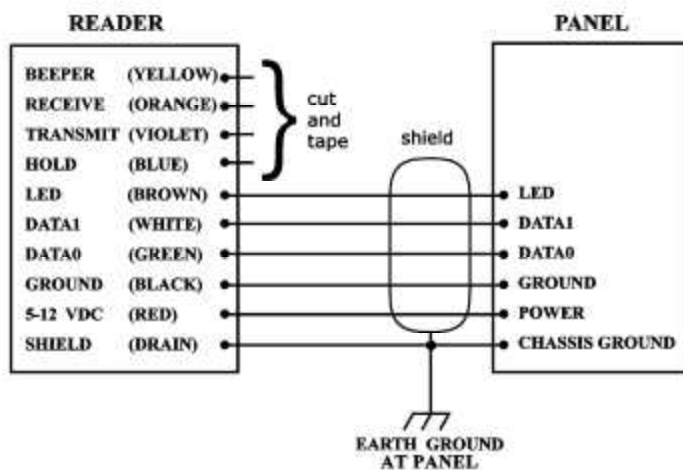

FIGURE 2: WIRING DIAGRAM (WIEGAND)
3. Connect the reader's cable to the access control panel as shown in Figure 2. Connect the **yellow** wire only if used for Beeper control by the panel. Connect the **blue** wire only if used for Hold control by the panel. **Do not connect the orange and violet wires to anything. Tape or cap all unused wires singly.**
- 5 to 7 conductors (not twisted pairs), stranded, 22 AWG, color-coded insulation, overall 100% shielded (Number of conductors depends upon use of optional features – Beeper, Hold and LED. See Figure 2.)